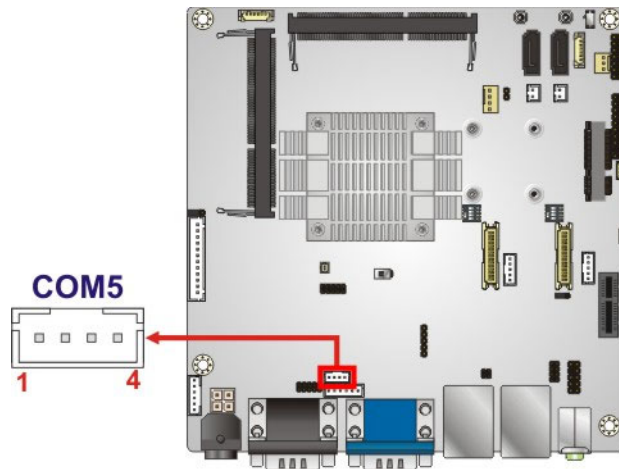

Figure 3-26: RS-422/485 Serial Port Connector Location
- CN Location:** See **Figure 3-26**